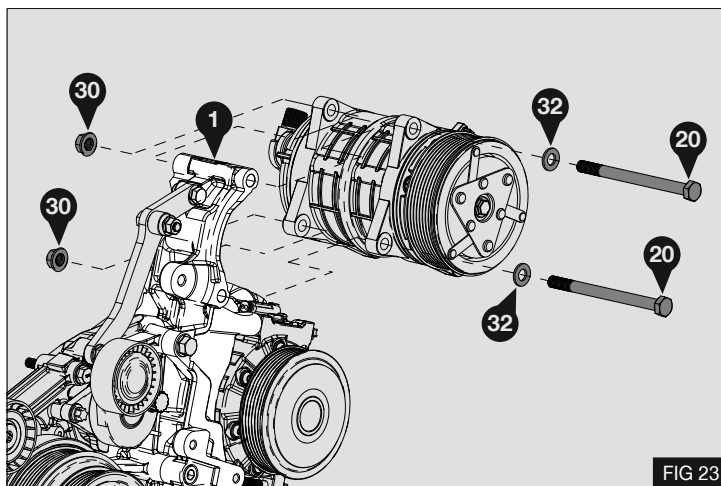

FIG 23
1. Secure the compressor to the mount bracket (1) using 2x bolts (20) with washers (32) and nuts (30) - Fig 23
2. Torque 2x M10x130 bolts (20) to 58 Nm / 43 lb-ft